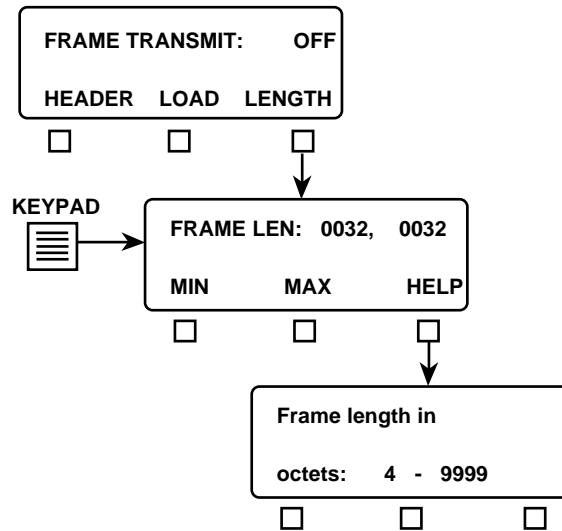

Figure F-7
Press the LENGTH softkey to display the Frame Length menu, as shown in Figure F-7. The Frame Length menu allows you to specify the minimum (4) and maximum (9999) frame length being transmitted. The frame length includes the header, user data field, and the FCS (e.g., everything between the flags).